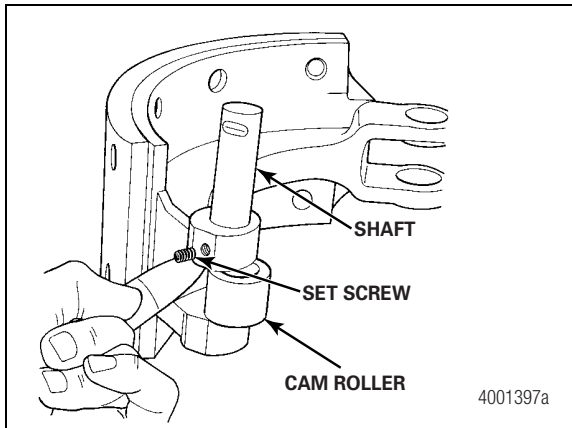

Figure 5.19
2. If removed, install the cam rollers into the shoe. Place the roller into the shoe. Install the shaft through the shoe and the roller. Align the set screw slot in the shaft with the hole in the shoe. Install and tighten the set screw. Figure 5.19.